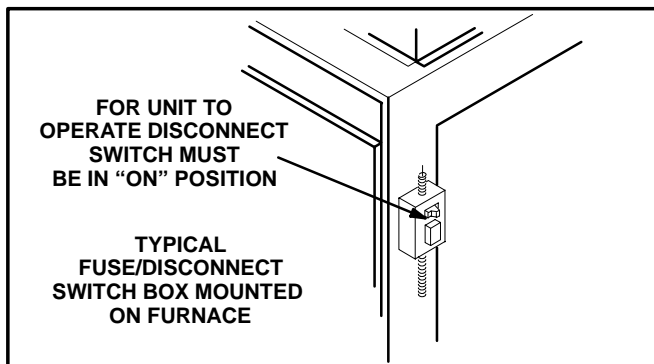

FIGURE 4
- 2- Turn off all electrical power to furnace. See figure 4.
- 6- Wait five (5) minutes to clear out any gas. Smell for gas, including near the floor. If you then smell gas, **STOP!** Immediately call your gas supplier from a neighbor's phone. Follow the gas supplier's instructions. If you do not smell gas go to next step.
- 2- Turn off all electrical power to unit if service is to be performed. See figure 4.